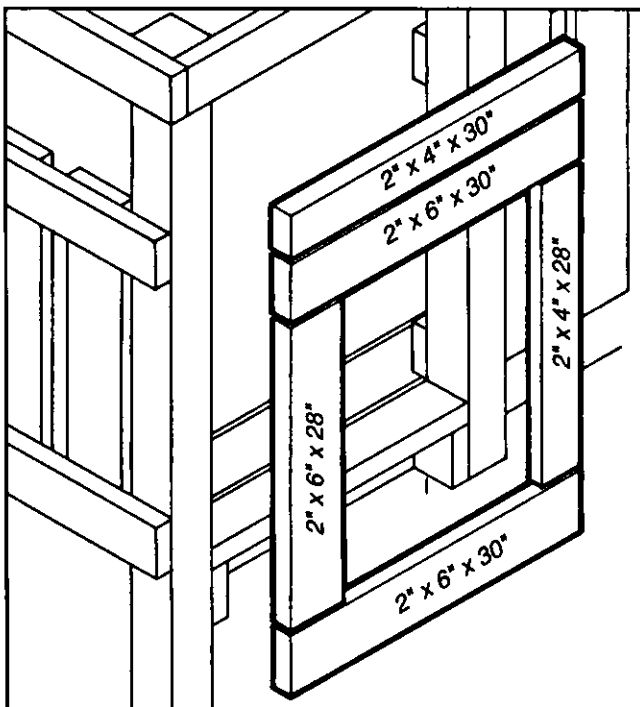

Fig. 1 Playdeck, Sandcastle, Eagle's Nest Climber, or Covered Wagon Round-up
- Align the bottom 2" x 6" x 30" board flush with the top of the deck and 4" x 4" posts and attach it to the unit using four 16D galvanized nails per joint (see Figs. 1 or 2). Attach remaining boards as indicated in Figs. 1 or 2 using four 16D galvanized nails per joint. **Note:** Work from the bottom board to the top board to assure proper alignment with the unit.